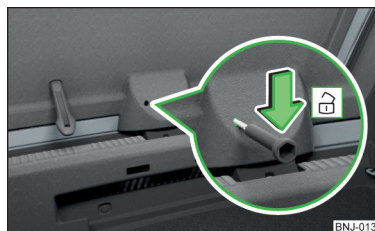

Fig. 195
- Insert a screwdriver or similar tool into the opening in the trim » Fig. 195 as far as the latch.